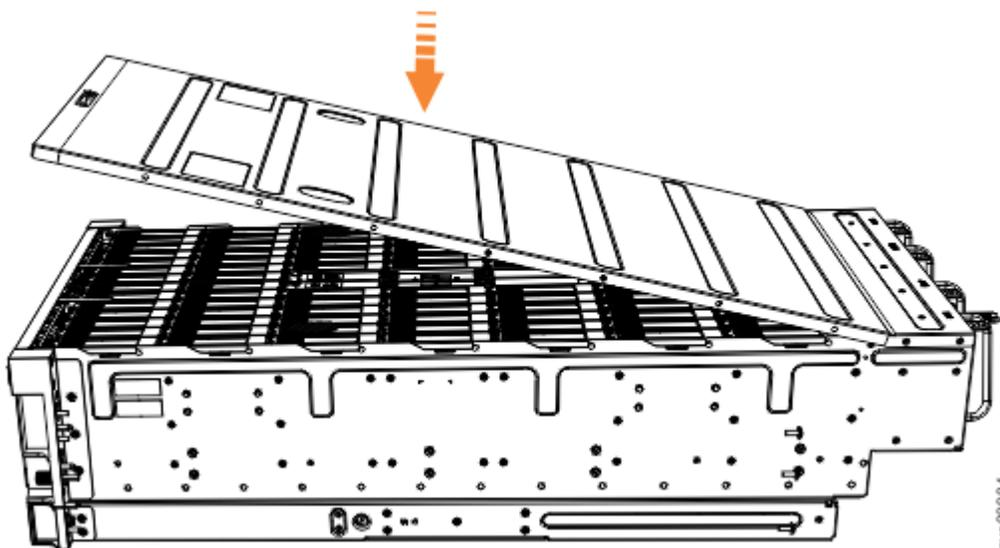

Figure 78. Aligning the 2145-92F top cover
1. Carefully lower the cover and ensure that it is aligned correctly with the back of the enclosure, as shown in Figure 78 on page 72.